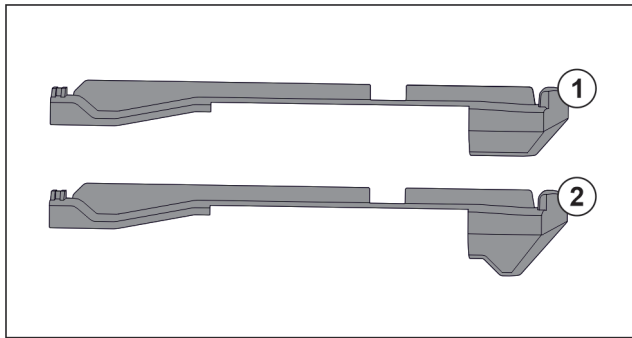

Fig. 126 Comparing attachments
There are two different attachments in the appliance. The attachment above the lowest drawer *Fig. 126 (2)* has a three-cornered edge. All other attachments *Fig. 126 (1)* have a straight edge.
- ▶ Fit attachment *Fig. 126 (2)* with the three-cornered edge above the lowest drawer.
- ▶ Fit attachment *Fig. 126 (1)* with straight edge in all other positions.